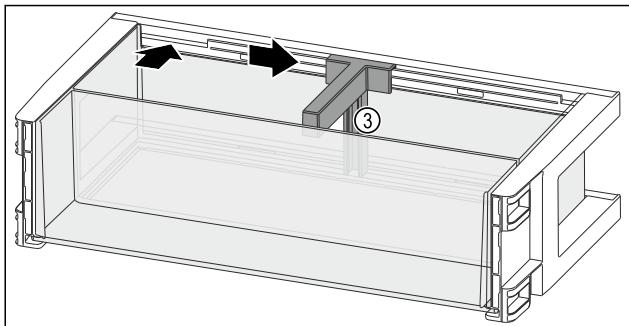

Fig. 136
- Insert the bottle holder Fig. 136 (3) in the recess.
- Push the bottle holder Fig. 136 (3) to the desired position to the side.